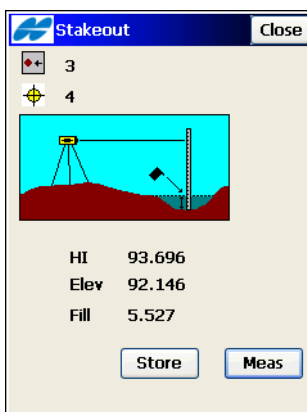

Figure 13-13. DL Stakeout
- **Stakeout** – opens the level *Stakeout* screen (Figure 13-13 on page 13-13).
The level **Stakeout** screen (Figure 13-13) displays the design point and the BS point. For every measurement taken, *Elevation* and *Cut/Fill* values are updated.